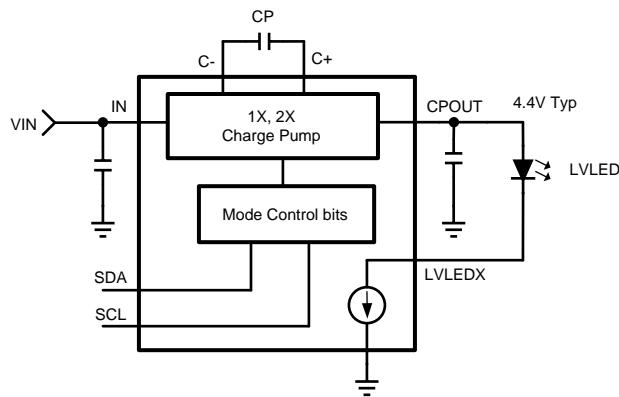

Figure 23. Integrated Charge Pump
The LM3533 features an integrated (2x/1x) charge pump capable of supplying up to 150 mA. The fixed 1-MHz switching frequency allows for use of tiny 1- μ F ceramic flying capacitors (CP) and output capacitor (C_{OUT}). The charge pump can supply the power for the low-voltage LEDs connected to LVLED1 to LVLED5 and can operate in 4 different modes: disabled, automatic gain, 1x gain, or 2x gain (see Figure 23).